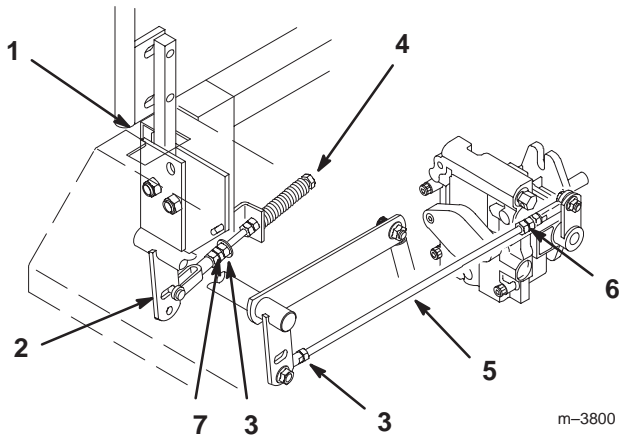

Figure 50
2. Begin with either the left or right motion control lever. Move lever to the neutral (but not locked) position and pull lever back until the clevis pin (on arm below pivot shaft) contacts the end of the slot (just beginning to put pressure on spring) (Fig. 50).
3. Check where lever is relative to notch in console (should be centered allowing lever to pivot outward to the neutral lock position) (Fig. 50).
4. Loosen locknut at ball joint on pump control rod (Fig. 50).
6. Adjust pump rod length by rotating double nuts on rod, in the appropriate direction, until wheel is still or slightly creeps in reverse (Fig. 50).